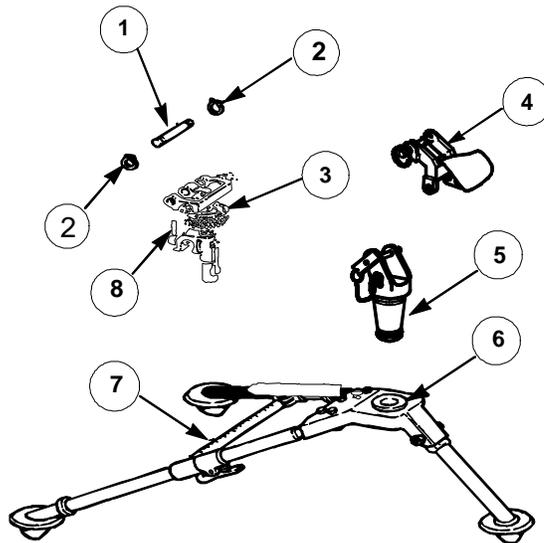

Figure 2
- b. REASSEMBLY: Add the following parts in accordance with subsequent instructions and Figure 2: